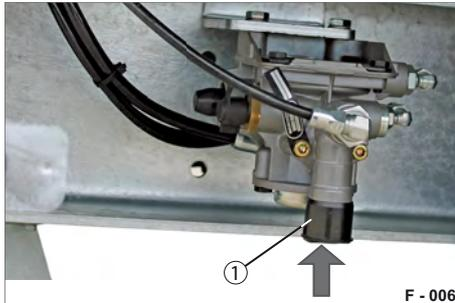

Fig. 9 Releasing service brake
- ▶ Press the release valve (Fig. 9/1).